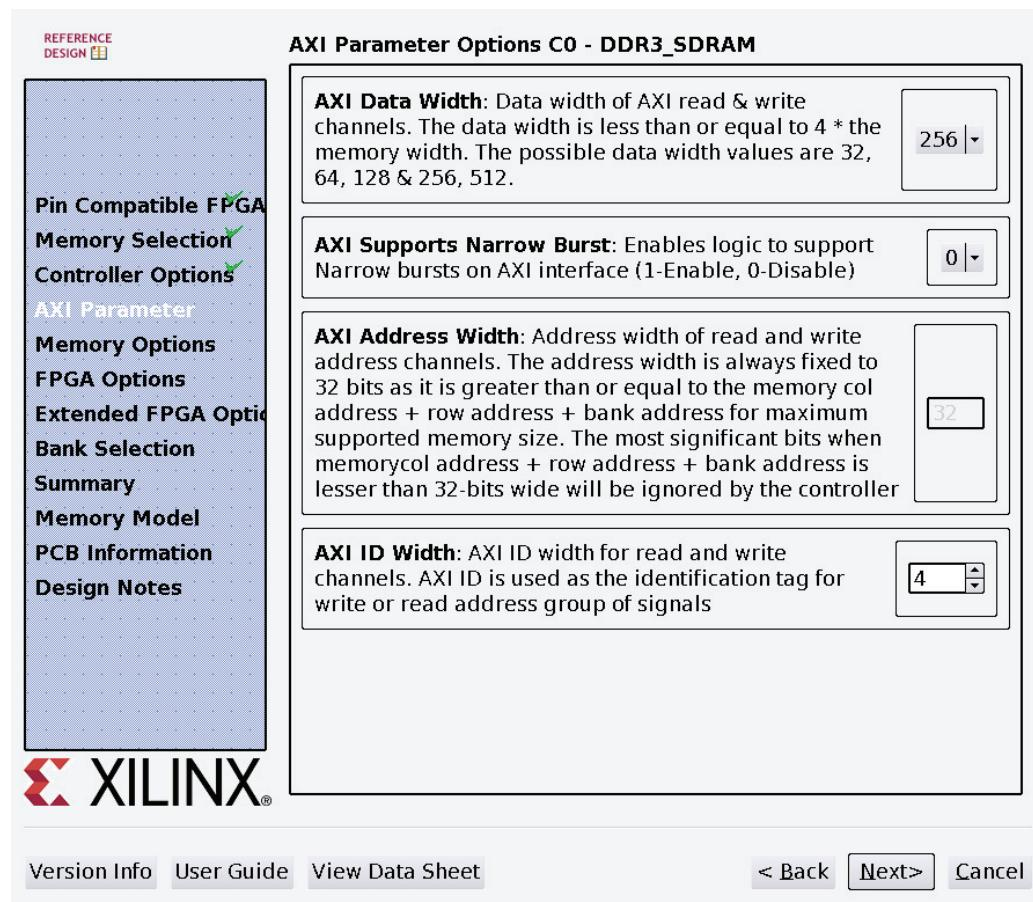

Figure 31: MIG AXI Parameter Options
18. For AXI Parameter settings, select the following parameters (Figure 31):